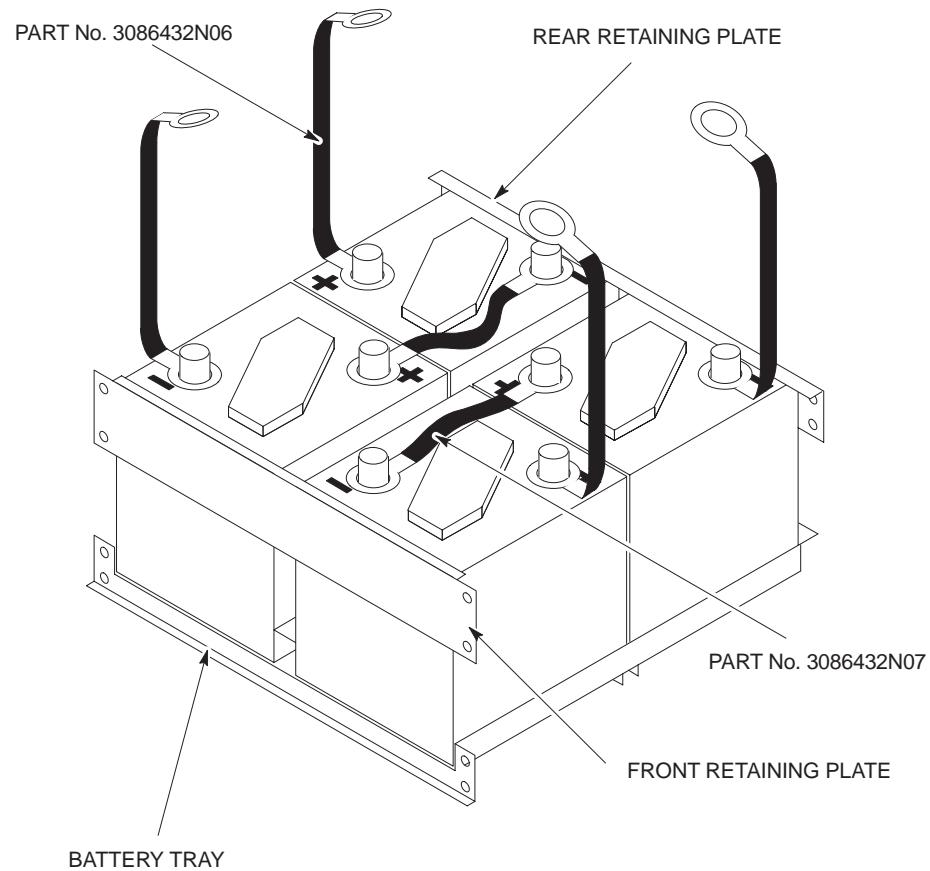

Figure 5-5 Battery arrangement in row 1 with cables attached
5. Connect the leads to the terminals as shown in Figure 5-5 and then fit the front retaining plate.
Figure 5-5 shows the battery and cable arrangement in row 1.